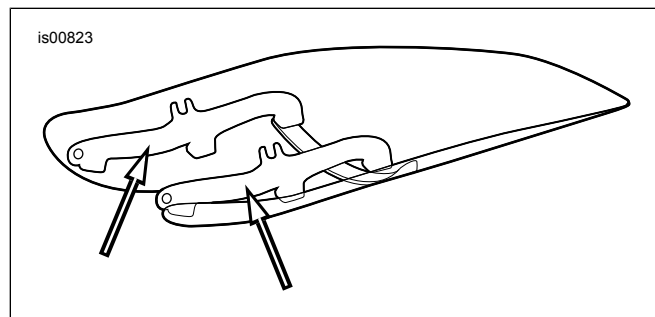

Figure 10. Windshield Mounting Brackets
1. See Figure 10. Remove windshield sub-assembly from packaging and place face down on a clean, soft surface with mount brackets facing upward.